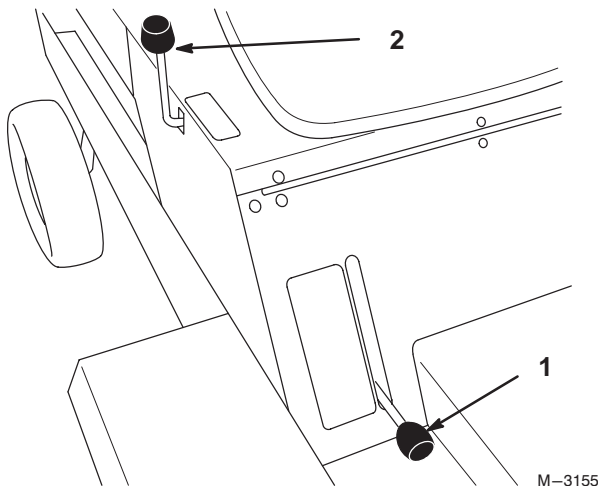

Figure 8
2. Lift the parking brake lever up to apply the parking brake (Fig. 8).
Move the parking brake lever down to the released parking brake (Fig. 8).
The implement lift lever (Fig. 8) is used to raise and lower various attachments.
2. Pull implement lift lever (Fig. 8) rearward to raise attachment to the desired height.
2. Push implement lift lever (Fig. 8) forward to lower attachment.